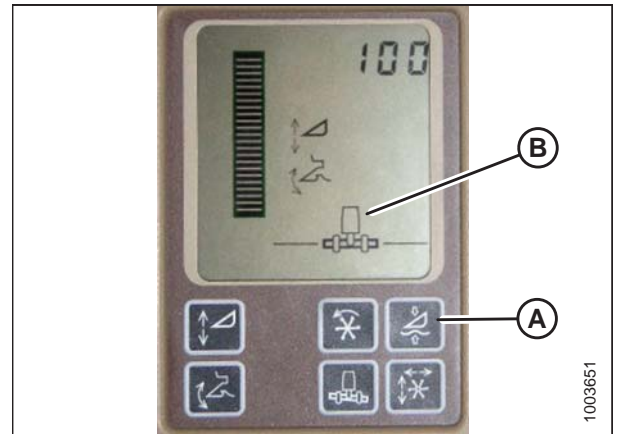

Figure 4.68: John Deere Combine Display
Do **NOT** use active header float function (A) in combination with MacDon auto header height control (AHHC)—the two systems will counteract one another. The header symbol (B) on display should **NOT** have a wavy line under it and should appear exactly as shown on Active Header Control Display in Figure 4.68, page 127.